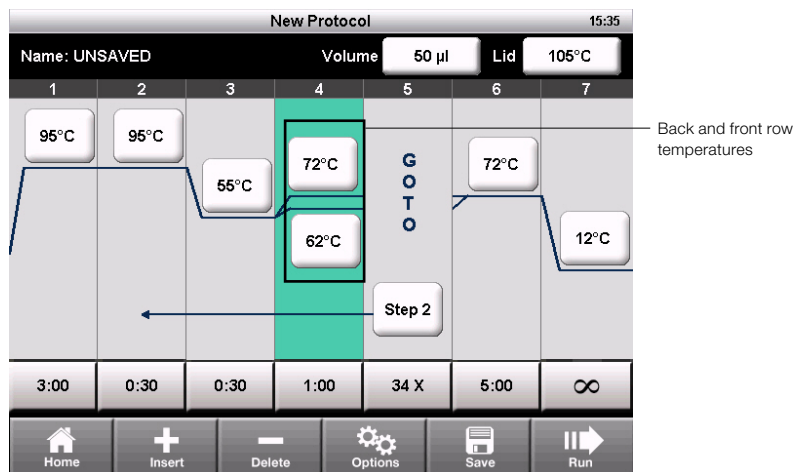

Fig. 11. The protocol has a gradient from 62 to 72°C.
4. The front and back row temperatures of the gradient are displayed as two lines in the thermal profile (Figure 11).